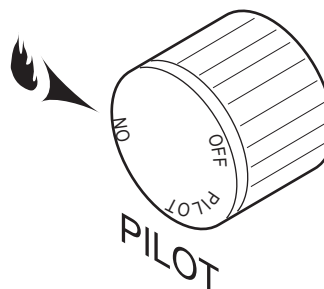

Figure 44 - On Position
Depress and turn the knob counterclockwise ↺ to the “ON” position. *Figure 44*. It will take less than four (4) seconds for the burner to ignite.